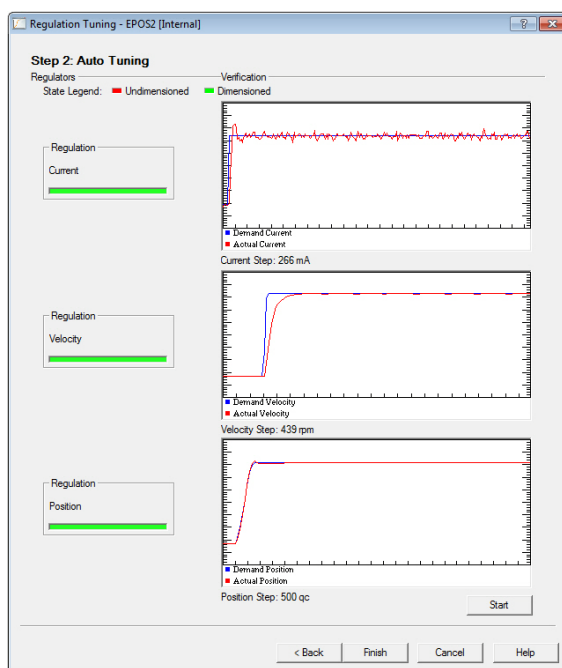

Figure 3-34 End of Auto Tuning
- Auto Tuning is complete as all three status bars changed to green (→ Figure 3-34).